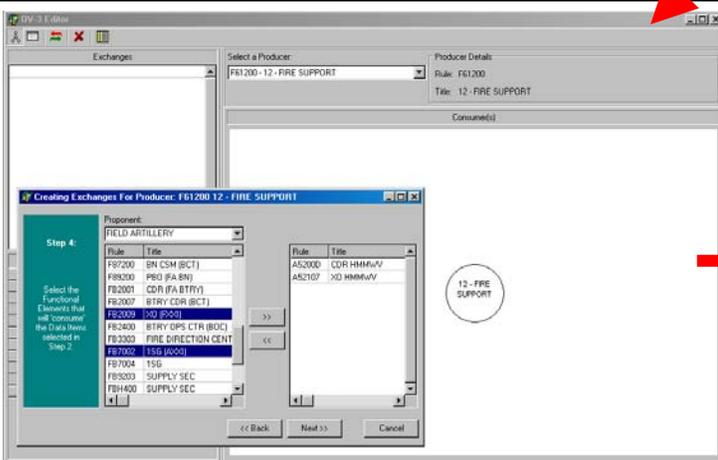

Figure 7: Exchange Wizard Step 4
STEP 4: (figure 7) The user selects the Functional Elements (nodes) that will consume the Data Items selected in Step 2 in support of the task selected in Step 1. More than one consumer may be selected and will receive the identical “Exchange/Message Set” in the OV-3. A needline will be auto-generated in the diagram for each consumer selected.